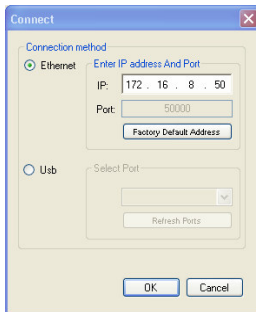

Figure 44: Device Selection Dialog Box
1. Open the Device menu and click Connect. The Connect window appears (see Figure 44).